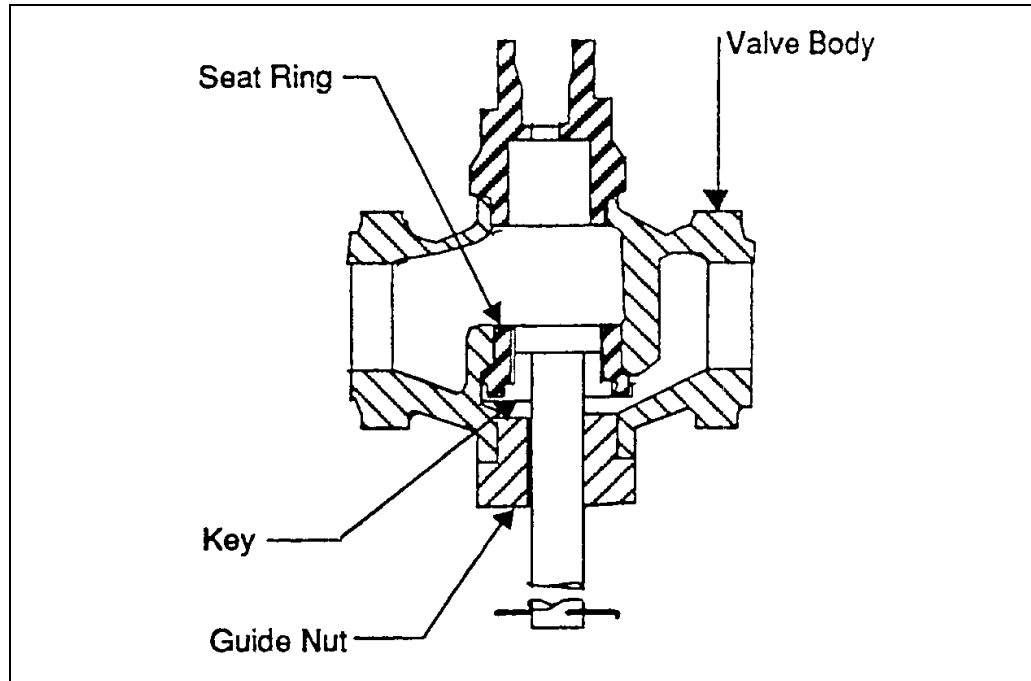

Figure 7: Seat Ring Removal
7. Unscrew upper seat ring from valve body. (Use tool if available shown in Figure 7 to remove seat ring.)